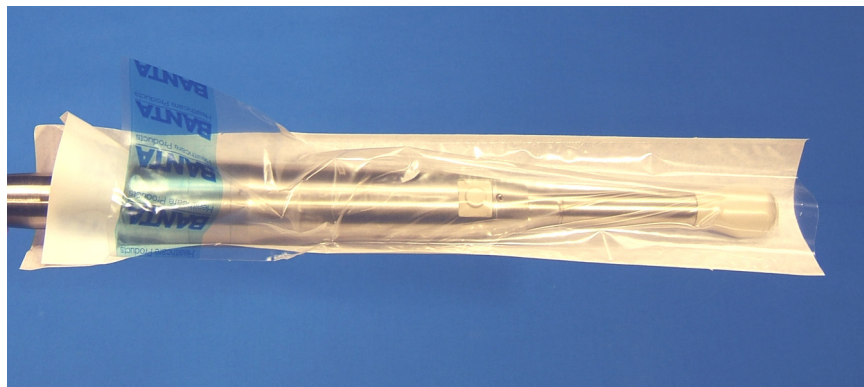

Figure 7
2. Orient the sheath so the opaque side is down and the blue tab is up and towards you (Figure 7).